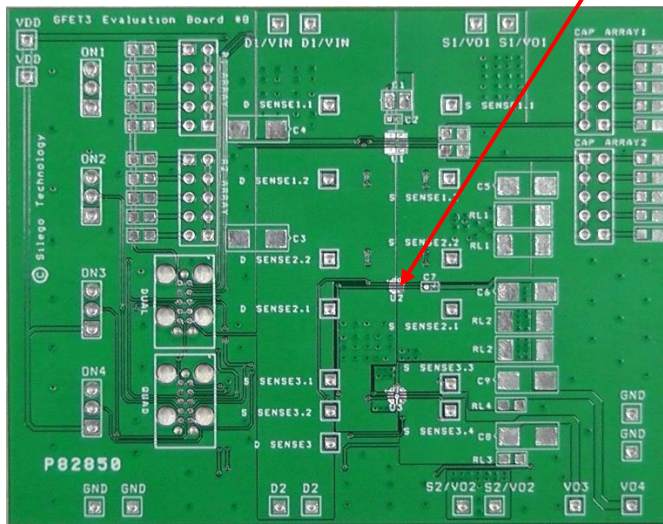

Figure 3. SLG59M1639V Evaluation Test Board
2.2. The D/VIN and S/VOUT pins carry significant current. Please note how the D/VIN and S/VOUT pads are placed directly on the power planes in Figure 3, which minimizes the RDS(ON) associated with long, narrow traces. The D/VIN and S/VOUT pins dissipate most of the heat generated during high-load current condition. The layout shown in Figure 3 is illustrating a proper solution for heat to transfer as efficiently as possible out of the device.